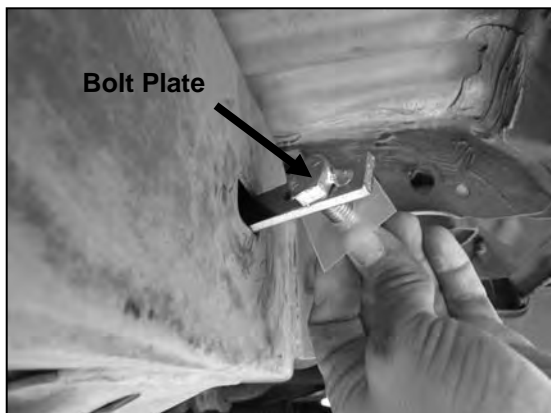

Figure 3
4. From underside of vehicle, locate the factory rectangular hole in the frame towards the front of the vehicle and insert (1) 12mm Bolt Plate (**Figure 3**).